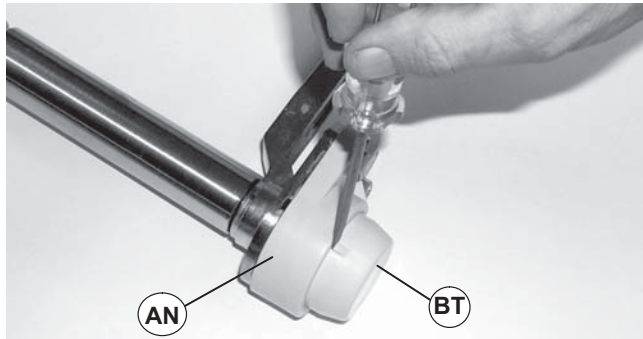

Figure 42
6. Use a screwdriver to remove bearing cover (Figure 42, item BT) from tail assembly (AN).
9. Install two bearing covers (Figure 42, item BT) on tail assembly (AN).